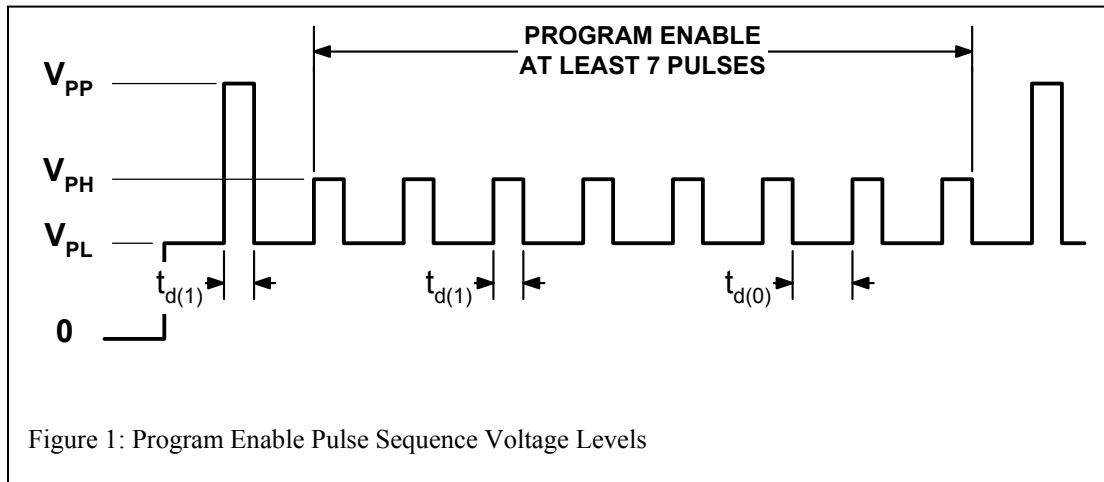

Figure 1: Program Enable Pulse Sequence Voltage Levels
3. With the control software send the program enable sequence and measure the values of  $V_{PH}$ ,  $V_{PL}$ , and  $V_{PP}$ . (See figure 1 below)